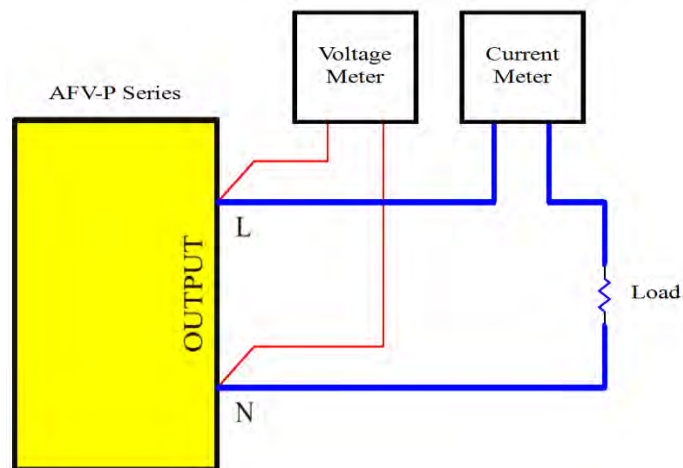

Figure 4.1 Instrument connection for calibration
The product provides a simple way to calibrate the product output and measurement accuracy without opening cover. Users can perform the calibration according to the procedures given as follows step by step. A voltage meter, a current meter and suitable load are needed while performing the calibration procedures. Connections for the instruments mentioned above please refer to Figure 4.1.
2. Connect the product with the voltage meter (refer to Figure 4.1).
2. Connect the product with the voltage meter (refer to Figure 4.1)
2. Connect the product with the current meter and suitable load (refer to Figure 4.1).